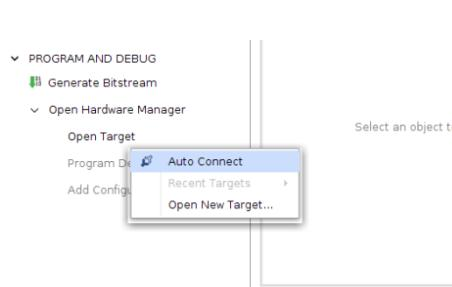

Figure 14. Vivado auto connect to hardware
3. Open “Hardware Manager” and “Auto Connect” to the FPGA (see Figure 14).